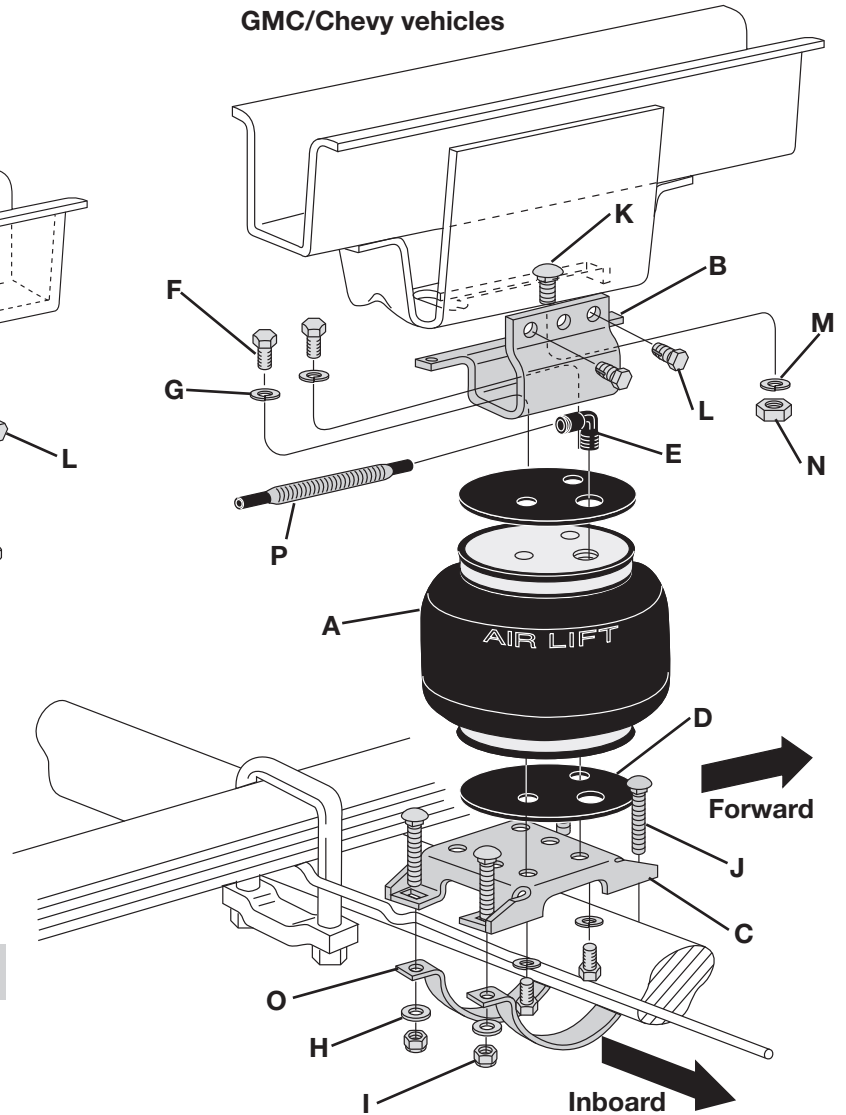

fig. 1
*Not shown in Figure 1
- Set the air spring assembly on the axle housing and guide the carriage bolt (K) through the large center hole in the upper bracket.
- Loosely attach with a 1/2" lock washer (M) and 1/2" hex nut (N). See fig. 1. The mounting holes on the end of the extended tabs on the upper bracket are not used on the late model GM applications.